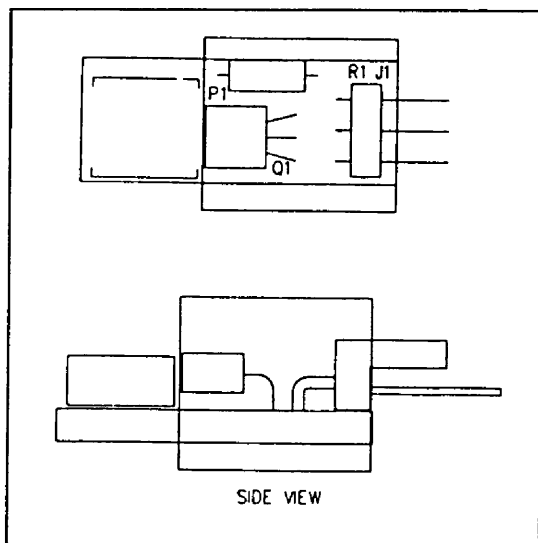

Figure 2
4. Attach the PC Board Adapter to the switch. The adapter is "keyed", meaning it can only be installed in the correct orientation on the switch. The PC Board Adapter (p/n 300113) is shown in Figure 2.